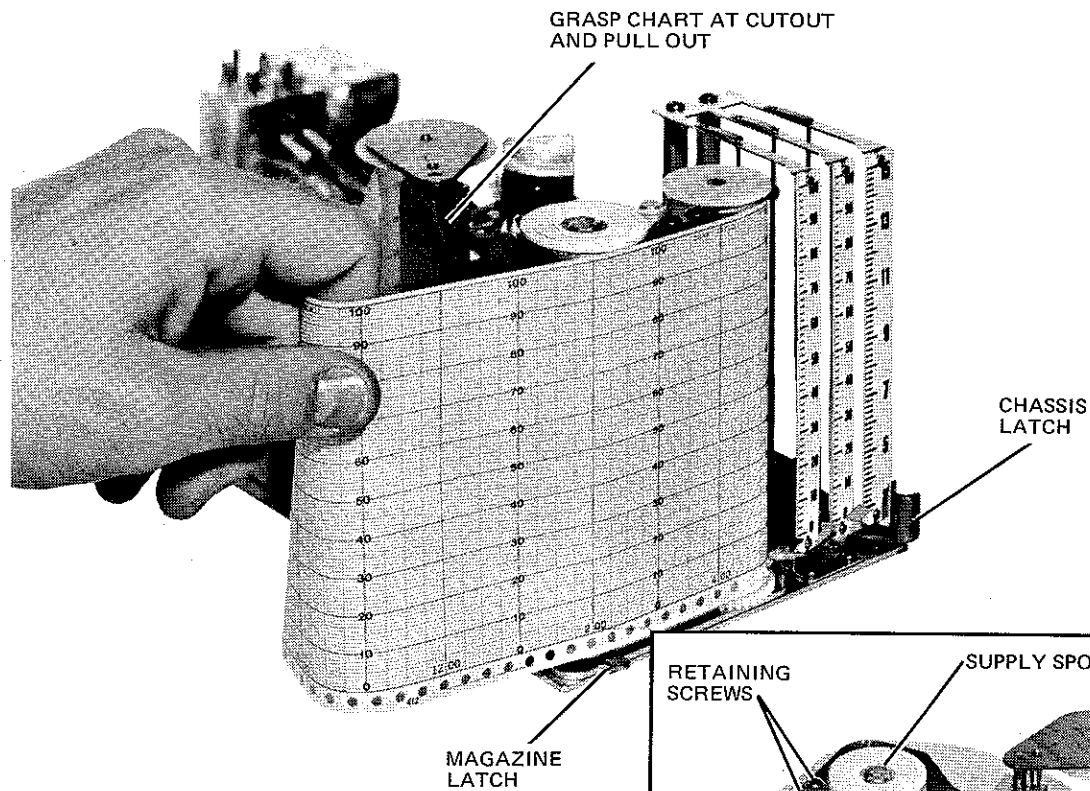

FIGURE 4 Chart Inspection
The rewind motor drives the rewind spool which draws up the slack in the chart and rewinds it on an empty chart spool. The rewind motor is geared for high speed and low torque. This permits the chart to be pulled out from the rewind spool for examination while the chart drive is in operation (see Fig. 4). Upon release of the chart, the rewind motor will automatically take up the slack and rewind the chart.
1. Open the door to gain access to the chassis' latch (see Fig. 4).
2. Push the magazine latch (see Fig. 4) to the left.